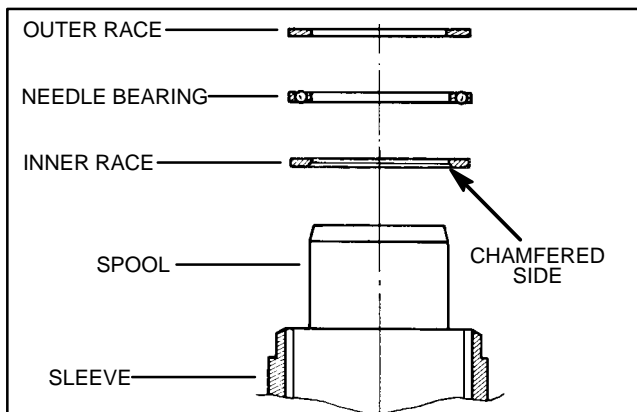

Figure 78
6. Install bearing assembly onto the spool and sleeve (Fig. 78).